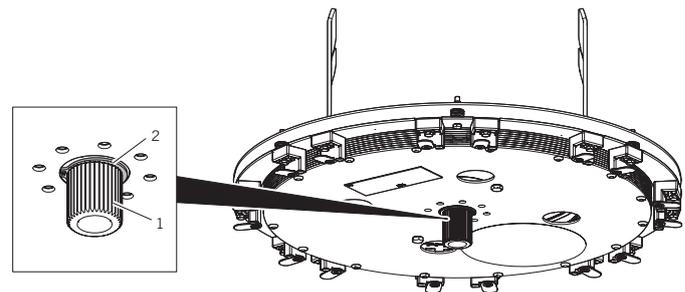

Fig. 68 Operator (bottom view)
1. Secure the toothed shaft (Fig. 68/1) with a securing ring (Fig. 68/2) from below.